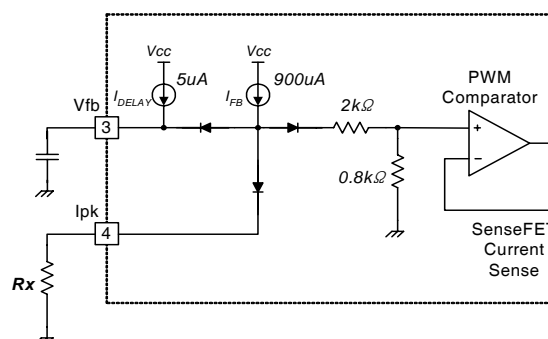

Figure 10. Peak Current Limit Adjustment
8. Adjusting Peak Current Limit: As shown in Figure 10, a combined $2.8\text{k}\Omega$ internal resistance is connected to the non-inverting lead on the PWM comparator. An external resistance of R_x on the current limit pin forms a parallel resistance with the $2.8\text{k}\Omega$ when the internal diodes are biased by the main current source of $900\mu\text{A}$.